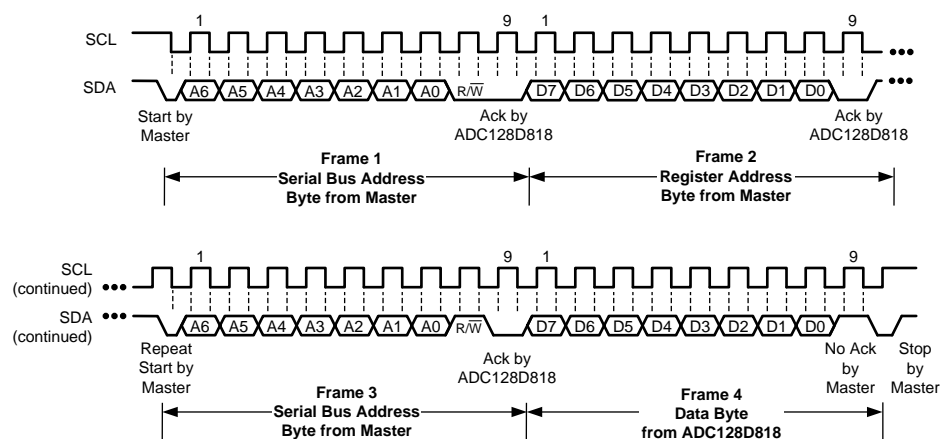
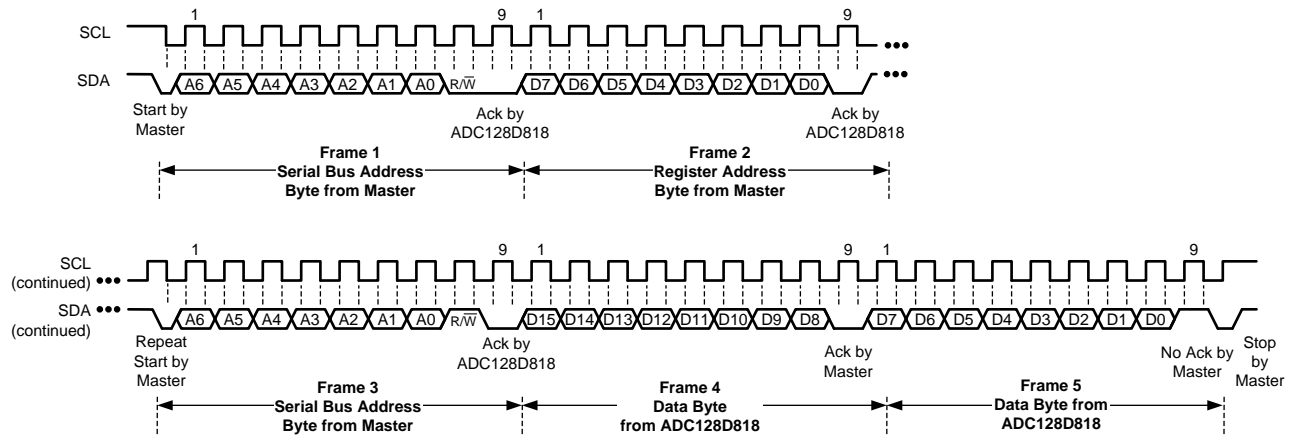

Figure 30. Serial Bus Interface Read Example 3 - Single Byte Read With Internal Address Set Using a Repeat Start
Figure 31. Serial Bus Interface Read Example 4 - Double Byte Read With Internal Address Set Using a Repeat Start
2. If the Register Address value is unknown, write to the ADC128D818 with the Serial Bus Address byte, followed by the desired Register Address byte. Then restart the Serial Communication with a Read consisting of the Serial Bus Address byte, followed by the Data byte read from the ADC128D818. See Figure 30 and Figure 31 for examples of this type of read.